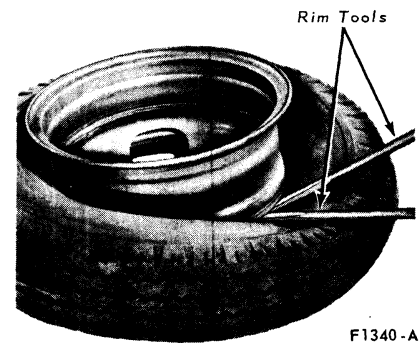

FIG. 9 Removing Tire From Rim
5. Turn the wheel over and loosen the opposite tire bead from the rim by hammering the hook end of the rim tool between the rim flange and the tire bead. Pry the tire bead away from the taper, and remove the tire from the rim (Fig. 9).